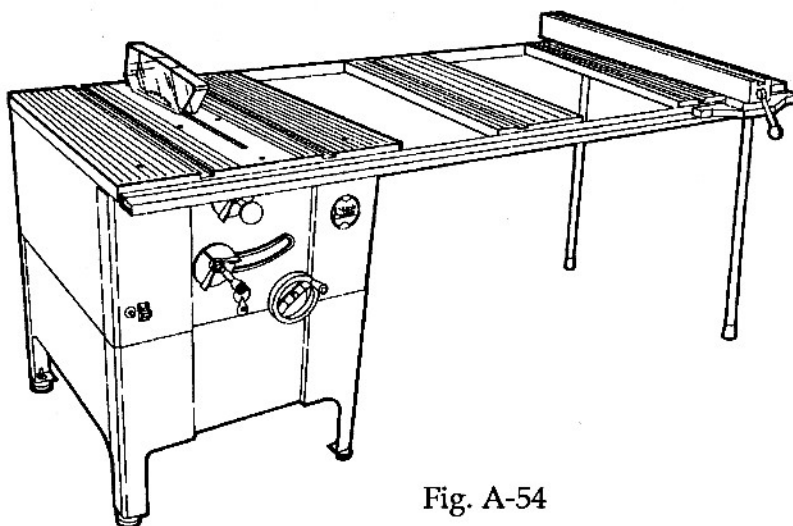

Fig. A-54
64. Repeat Steps 59- 63 to install the leg adaptor and telescoping leg on the other rail. Fig. A-54 shows the completely assembled Ultra Model.